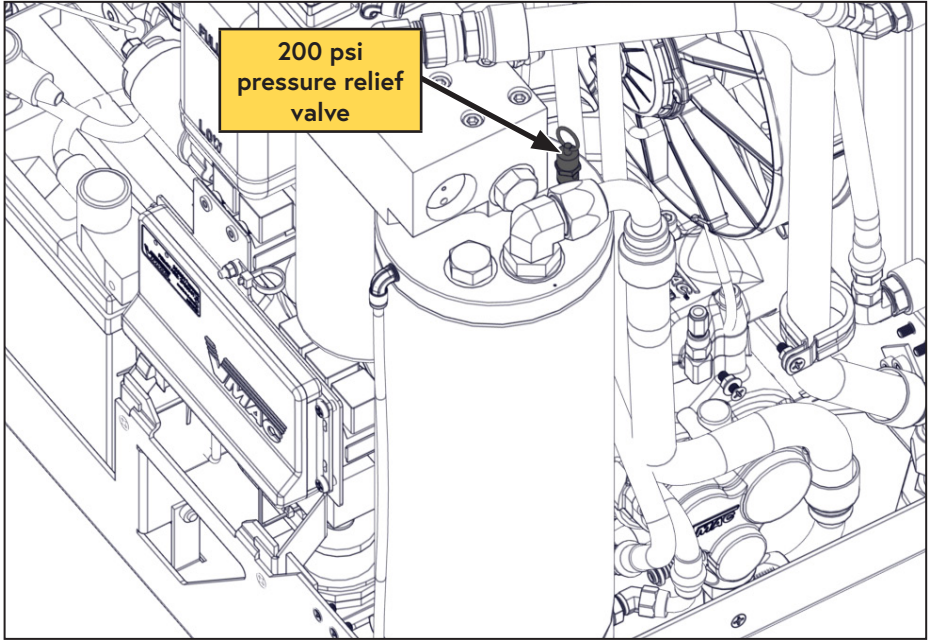

Figure 16 — Pressure relief valve
- Visually inspect the pressure relief valve to ensure it is not corroded and that the vent holes are not plugged (Figure 16).